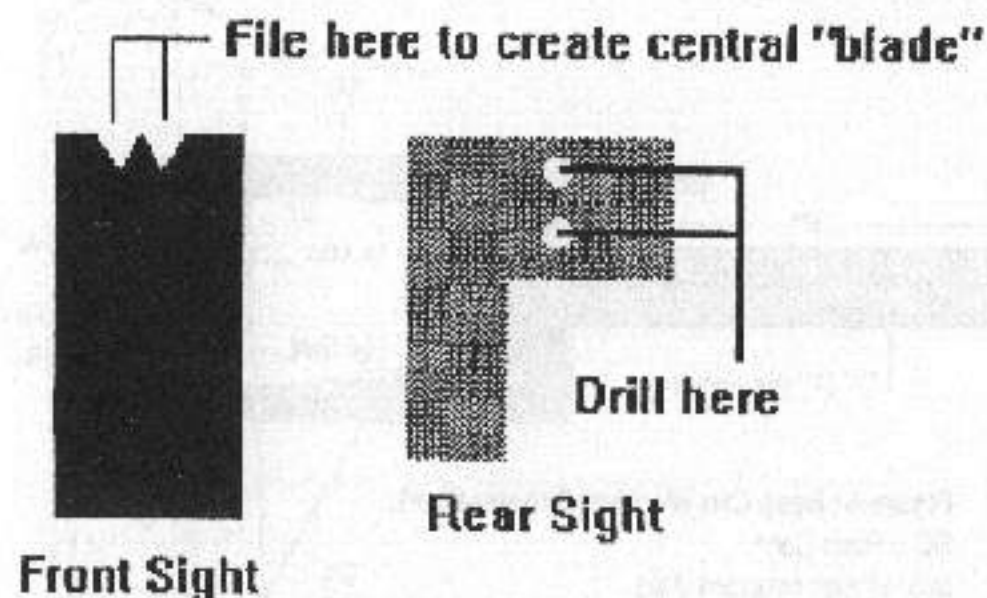

Figure 5: Front and Rear Sight Detail.
- FS = Front Sight: Notches filed in vertical rectangular plate (VRP) forming "blade." (See Figures 5 and 5A for details.)
- RS = Rear Sight: Peephole(s) pierced in LP in line with FS. Specific distances between holes for different ranges are determined during initial test-firings. (See Figures 5 and 5A.)